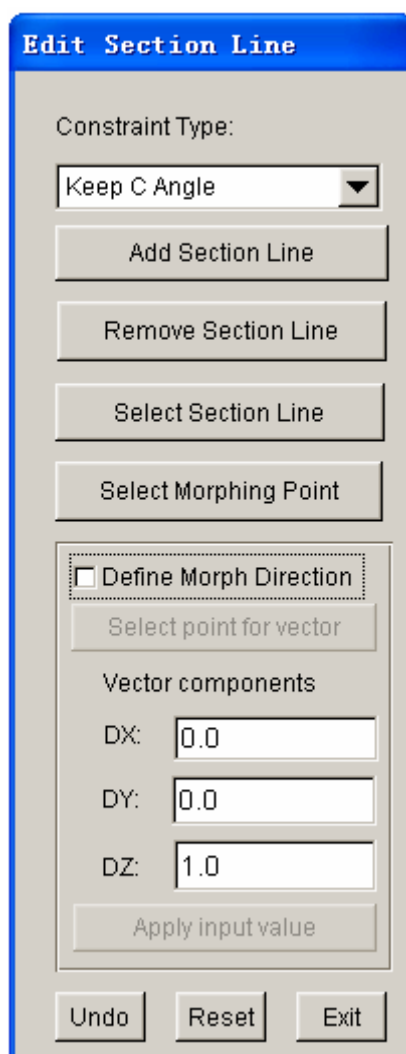

Figure 6.5.5 Section Line Morphing dialog box
- After a surface is selected, the U-V lines are displayed on the surface and a dialog box as illustrated in Figure 6.5.5 is displayed.